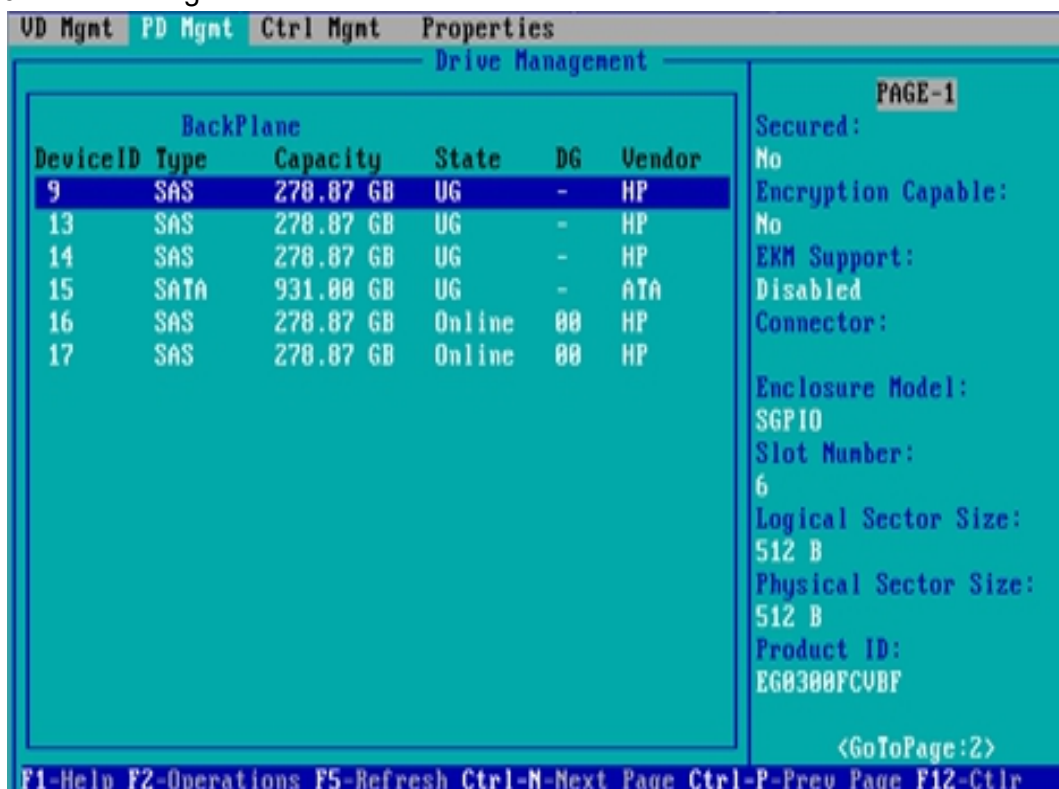

Figure 6-121
a) As shown in figure 6-121, select the disk to be located in the PD MGMT interface and press F2.
✧ Figure 6-121 selecting the disk to be located